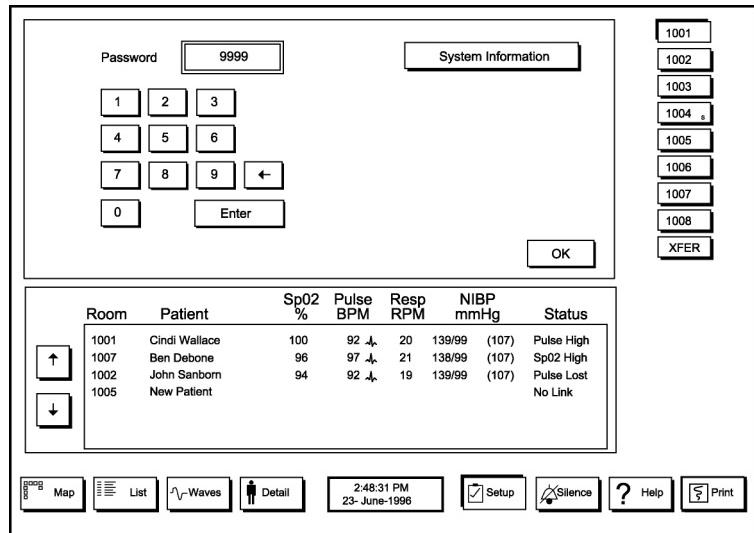

Figure 11: System Setup Password Screen
2. Click the System button at the top of the Patient Setup screen. The Passwords screen is displayed as shown in Figure 11 on page 36.